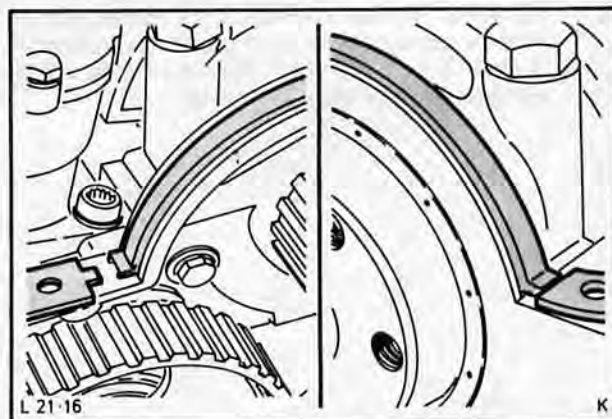

Fig. 108. Fit oil sump gasket
46. Insert rubber seal in groove of rear seal carrier. Apply sealing compound to cylinder block mating surface at joint of cover and rear seal carrier. Place sump gasket in position and slide projections on cork gasket under cut-outs in rubber gasket, Fig. 108.